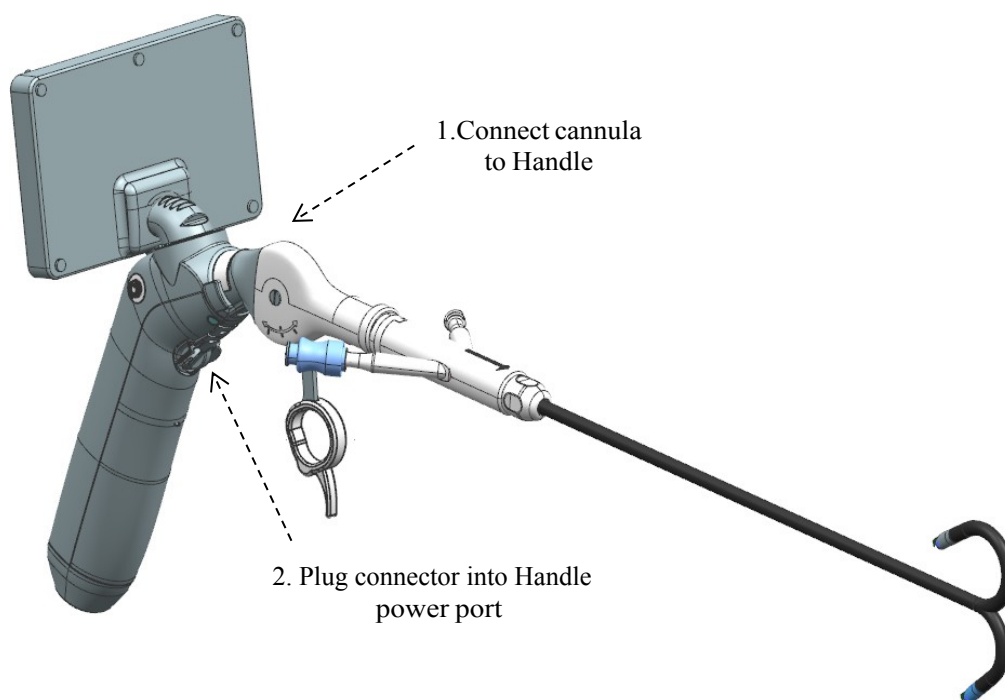

Figure 2. Attach Cannula to Handle
- 5.2.4. Once cannula is connected, insert the male USB connector of the disposable cannula into the USB female connector on the handle. See Figure 2.
- 5.3.2. Attach the cannula to the handle. See Figure 2. (For detailed instructions on connecting the cannula refer to section 5.2).